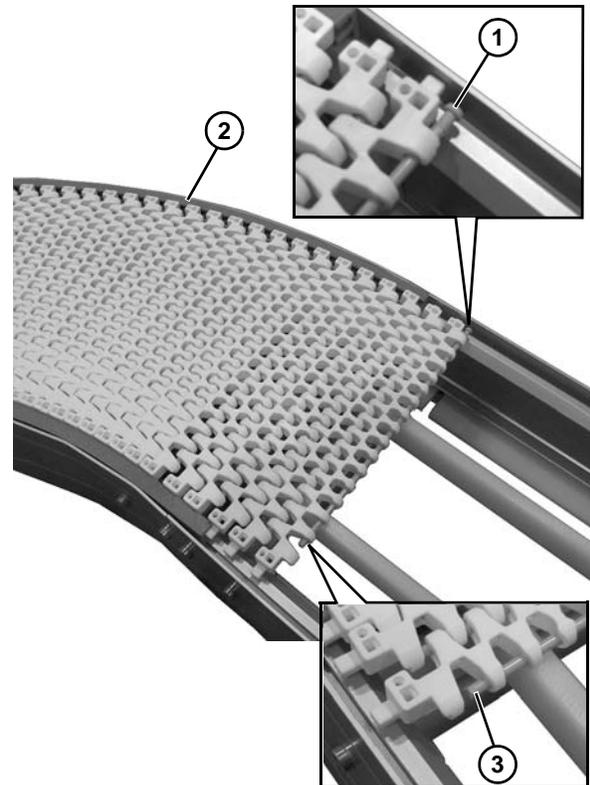

Figure 23
2. Orient the belt direction such that the pin heads (Figure 23, item 1) are on the outside of the belt radius (Figure 23, item 2). The straight portion on the pin (Figure 23, item 3) will be on the inside radius.